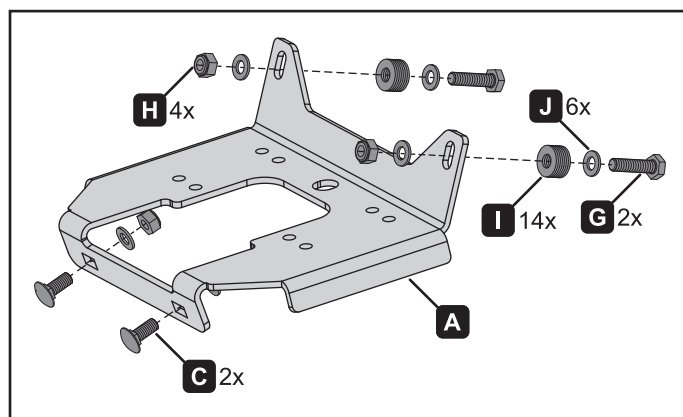

Figure 8. Alternative configuration example: Use washers (I) to fill gaps between the machine and plow mount (A) as needed.
- If the holes on your machine are round instead of square, use bolts (G) in place of carriage bolts (C).
- If your machine has gaps between the winch mount plate (A) and the frame holes (3) and (4), place washers (I) as needed in front and/or behind the winch mount plate to fill the gap while retaining hole alignment. If carriage bolts (C) are too short, use bolts (G) instead. See figure 8.